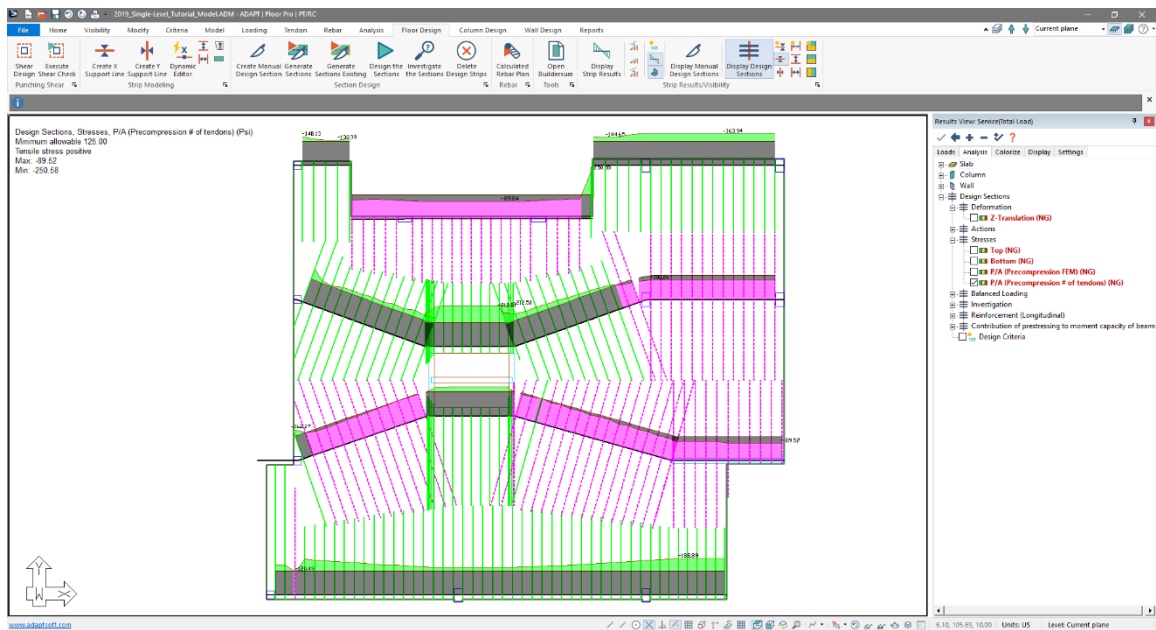

Figure 8-51
- The user should now see the precompression values along the X-direction support lines as shown in **FIGURE 8-51**.